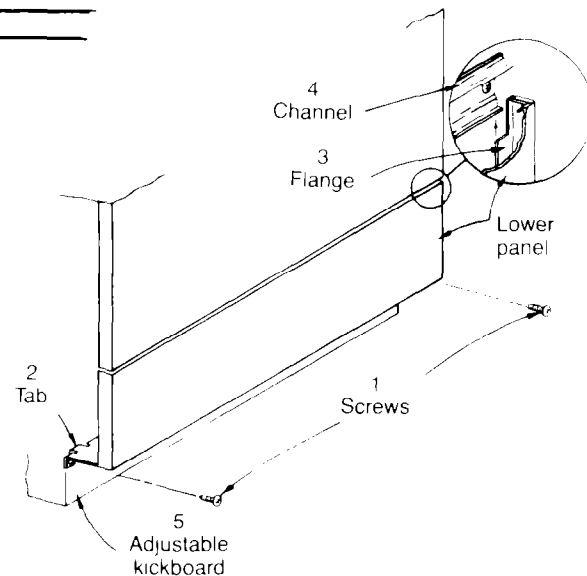

Fig. 9
The adjustable kickboard and lower panel (Fig. 9) must be removed for access to dishwasher connections. Remove the kickboard (5) by removing the two screws (one with lock washer) that secure it. Remove two screws (1) and pull out the bottom of lower panel to unhook tabs (2) from frame. Remove the lower panel by pulling it downward to slide panel flanges (3) from behind the support channel (4).